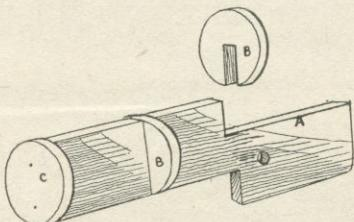

Fig. 2—The boiler framework
The next parts required are three discs 1¾ins. in diam., two as "B" cut with halvings to fit into A, and one, a plain disc for gluing and nailing on the end as shown in Fig. 2. These discs are to take the 1/16in. wood (D) which will be bent round them and glued and close pinned if necessary.